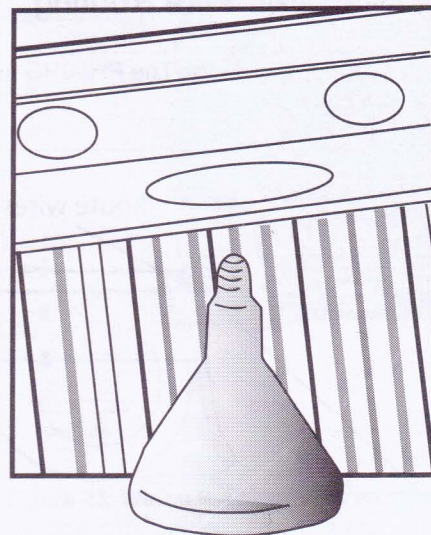

Figure 27: Heat Lamp Replacement
- Turn heat lamp clockwise to install (Figure 27).